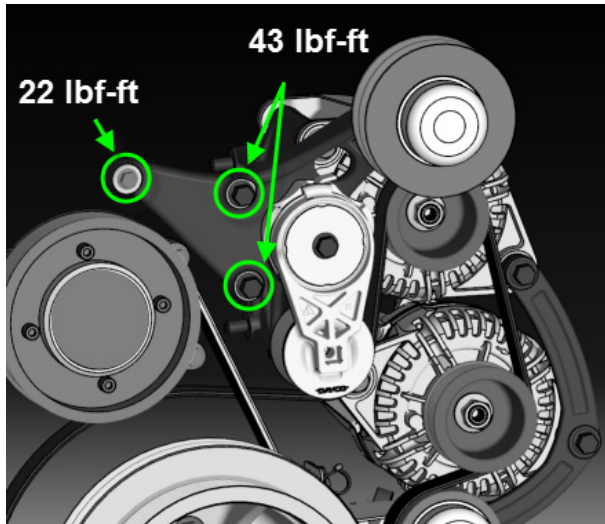

FIGURE 12
19. Reinstall the A/C compressor idler pulley bracket assembly (figure 12). Apply Loctite 243 on threads. Reinstall the A/C compressor belts.